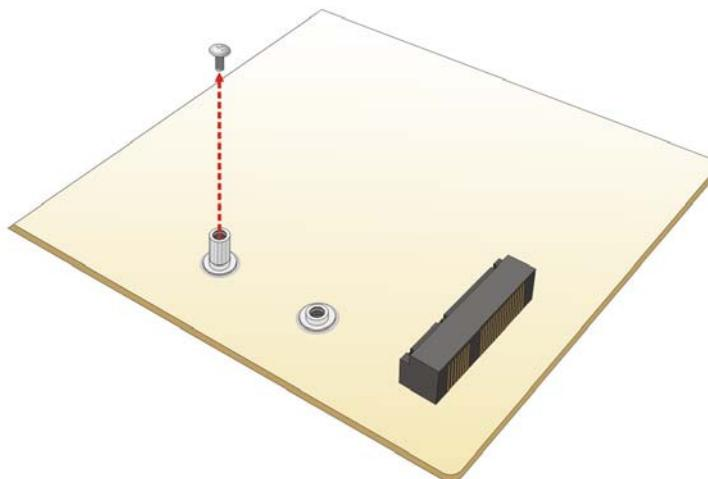

Figure 3-12: Removing the Retention Screw
Step 4: Remove the retention screw. Remove the retention screw as shown in **Figure 3-12.**